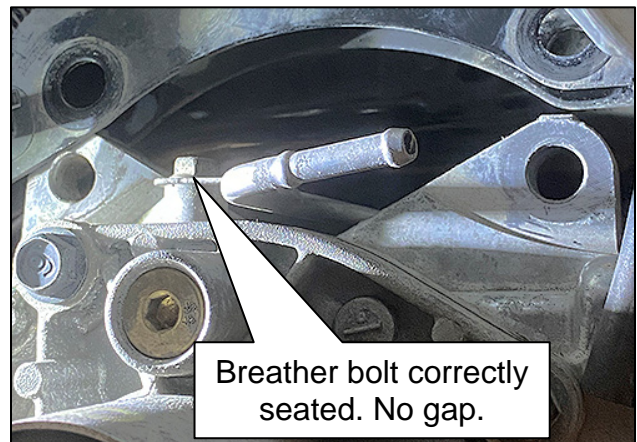

Figure 6
- The Breather's bolt is seated correctly and is not cross threaded (Figure 6).